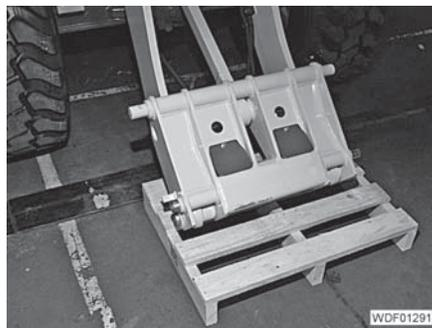

Fig. 308 Setting down the load arm
- Fully lower the load arm and set it down onto a suitable surface (e.g. pallet) so that it cannot tip over (Fig. 308).